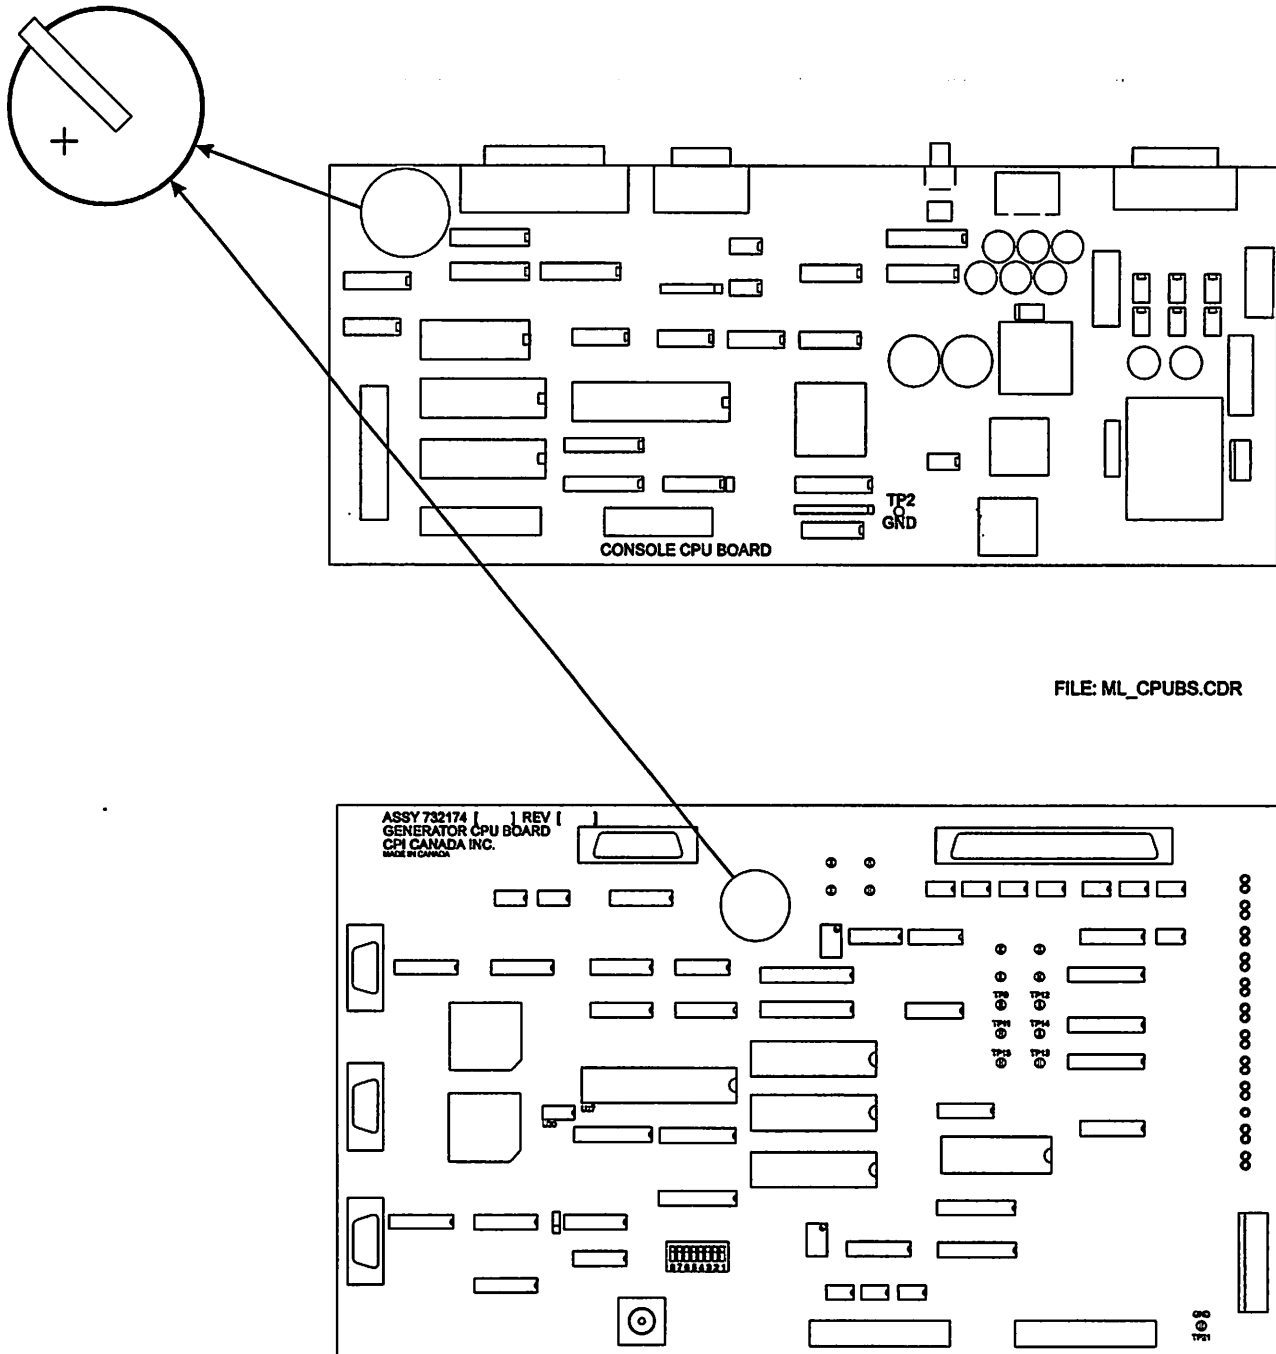

Figure 2-20: Location of batteries on generator and console CPU boards
3. Locate the battery on the console CPU board, refer to figure 2-20. Measure the battery voltage with a DVM. The top of the battery is the positive side, ground (TP2 on the board) is the negative side.
1. Locate the battery on the generator CPU board, refer to figure 2-20. Measure the battery voltage with a DVM. The top of the battery is the positive side, ground (TP21 on the board) is the negative side.